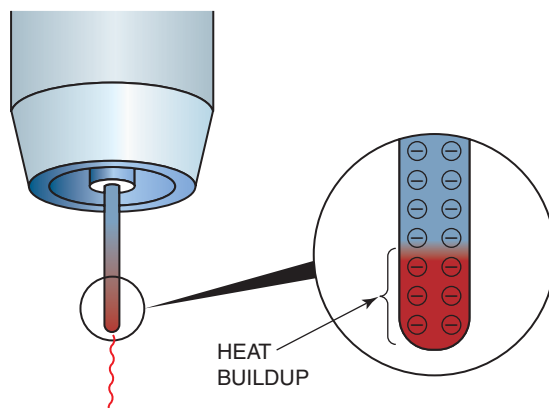

Figure 2.20 Heat buildup due to the extremely high current for the small conductor (electrode)
resistance will be to the welding current flowing through the small welding wire. This results in some of the welding current being changed to heat at the tip of the electrode, Figure 2.20. With a standard constant-current (CC) power supply for SMA welding, the heat buildup would also reduce the arc voltage, but with a CP power supply the voltage remains constant and the amperage increases. If the electrode extension is shortened, the welding current decreases.